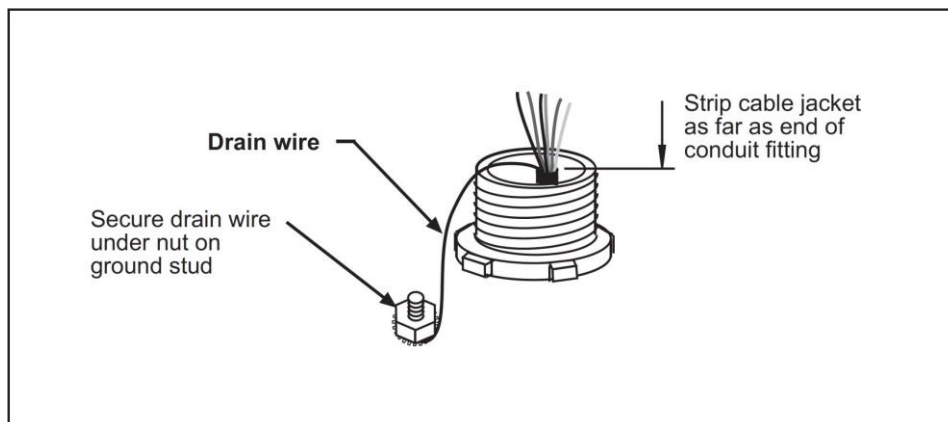

Figure 2-12. Shield Drain Wire Connected to Ground Stud on Enclosure
3. Mount the drill jig supplied with the strain links (see Figure 2-12 for mounting dimensions), first aligning the large hole in the jig with the mounting hole you have just drilled and tapped, then securing the jig to the press frame with the long mounting screw. (The four shorter screws are used to mount the strain link).